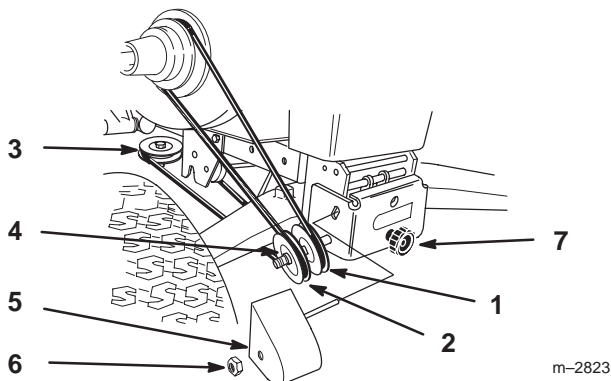

Figure 33
7. Route belt around V and flat pulleys and loop over center mower spindle, top pulley.(Fig. 33).
8. Check that spacer is on shaft and install belt cover with rod in hole. Secure with locknut (Fig. 33).
9. Turn knob counterclockwise to tighten belt (Fig. 33). Tighten until there is 1" (26 mm) belt movement between engine clutch and idler pulley when slight pressure is applied to the belt.